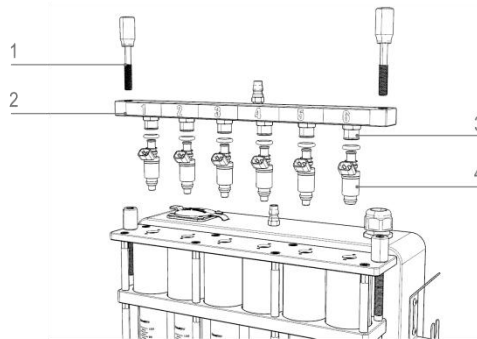

Figure 5.10
- 3) Adjust the screws to fix the fuel distributor and injector assembly in the oil filler hole of the upper cover and tighten the compression screws on both sides evenly. The installation diagram is shown in Figure 5.10.